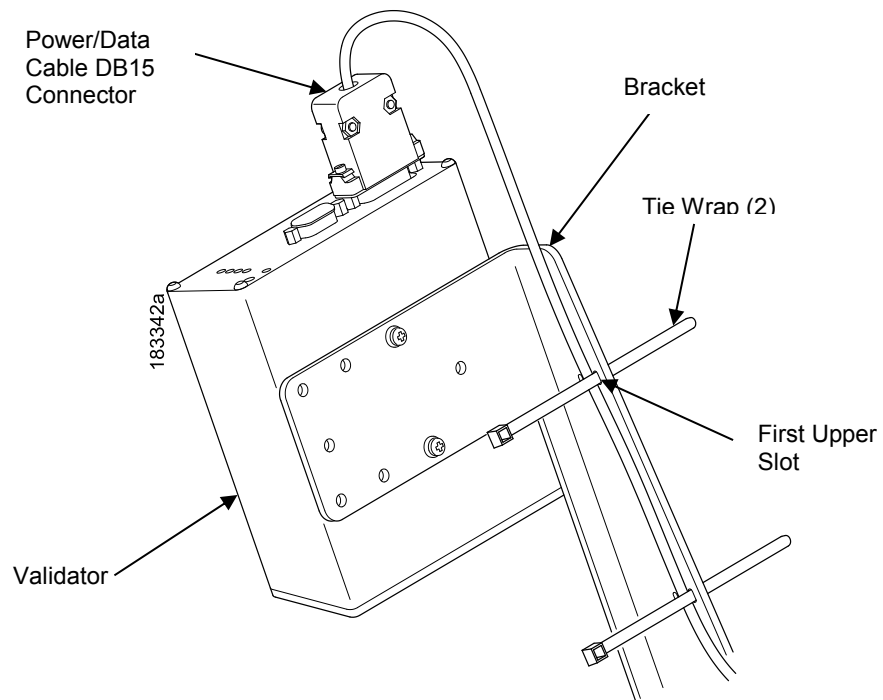

Figure 21 Attaching the Power/Data Cable (T8)
2. Route the power/data cable along the inside of the bracket, as shown in Figure 21.
3. Route a tie wrap from the inside of the bracket through the first upper slot as shown in Figure 21, keeping the power/data cable underneath the tie wrap.